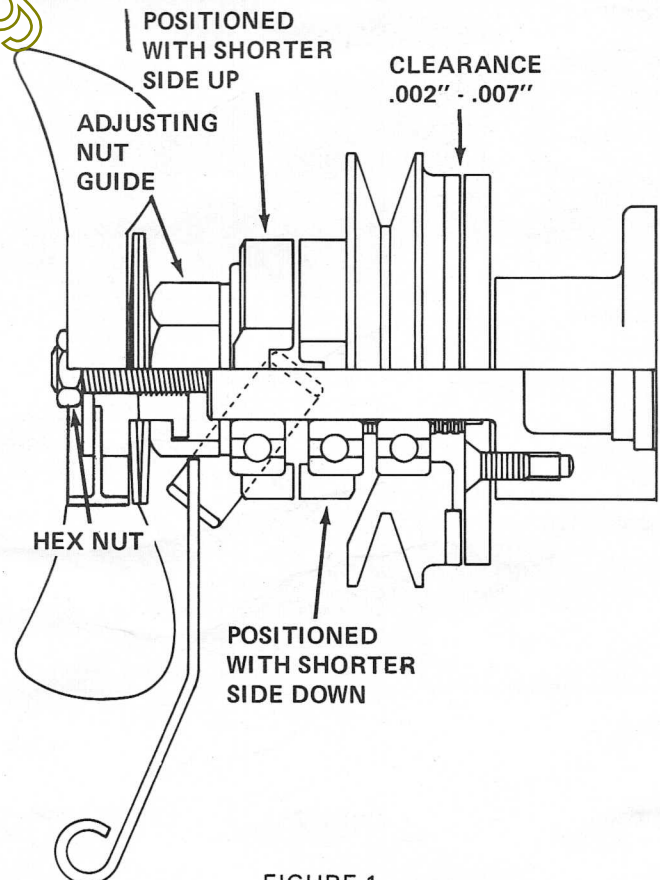

FIGURE 1
7. Place rear cam (9) on drive hub (2) or (2A) so that notch faces out and front cam (11) with notches facing in.
8. Rotate the cams until the lever notches are misaligned as shown in Figure 1. The rear cam on drive hub must be positioned so the shorter side is downward and the front cam must have the shorter side upward.
10. Position spacer (19) on hub (2) or (2A).
11. Thread adjusting nut and guide (14) and (18) on hub. Guide (18) should be against spacer (19). Nut (14) should protrude through guide (18) enough to hold rear spring (12).
12. Front spring (12) should pilot on spacer (13).